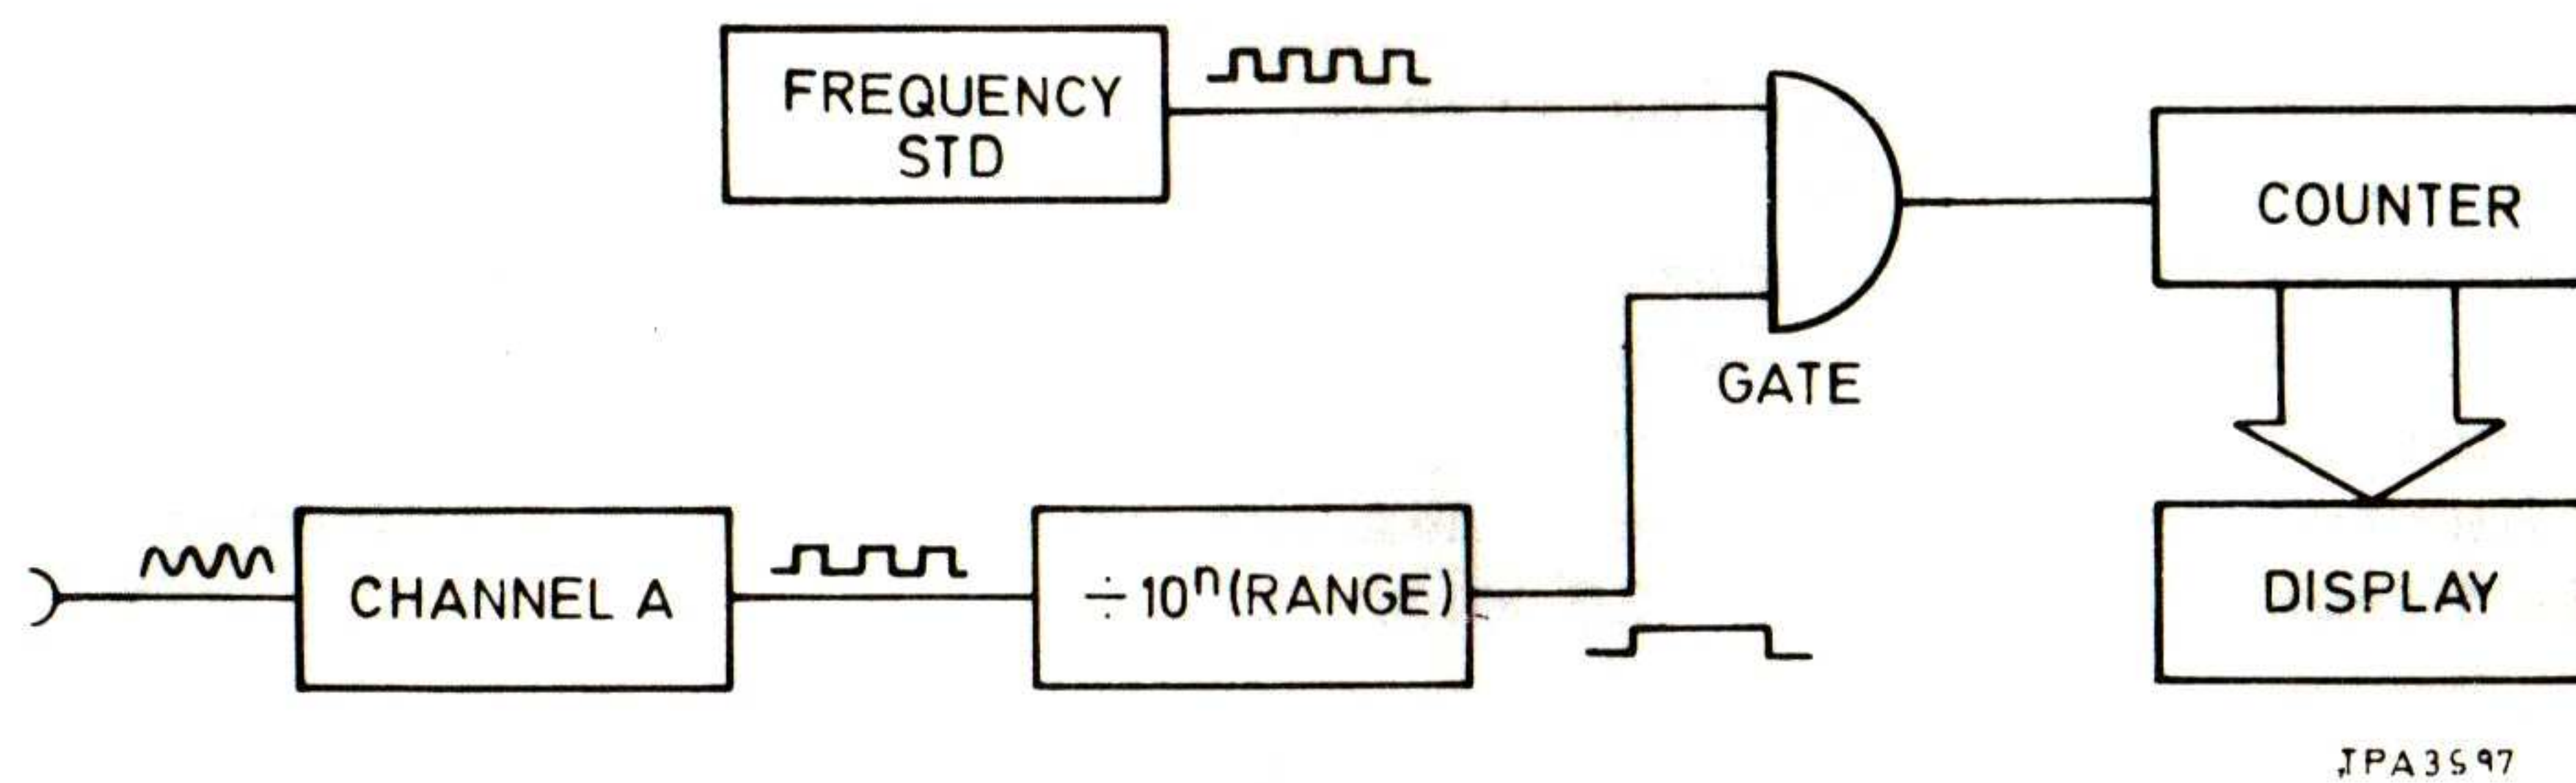

Fig. 4 PER A mode
5. In the PER A mode, see Fig. 4, the input signal whose period is to be measured, is converted to a pulse train. These pulses are then divided; the ratio depends on the range selected. The resulting gate control signal admits standard frequency pulses so that the reading is proportional to the period of the input signal.